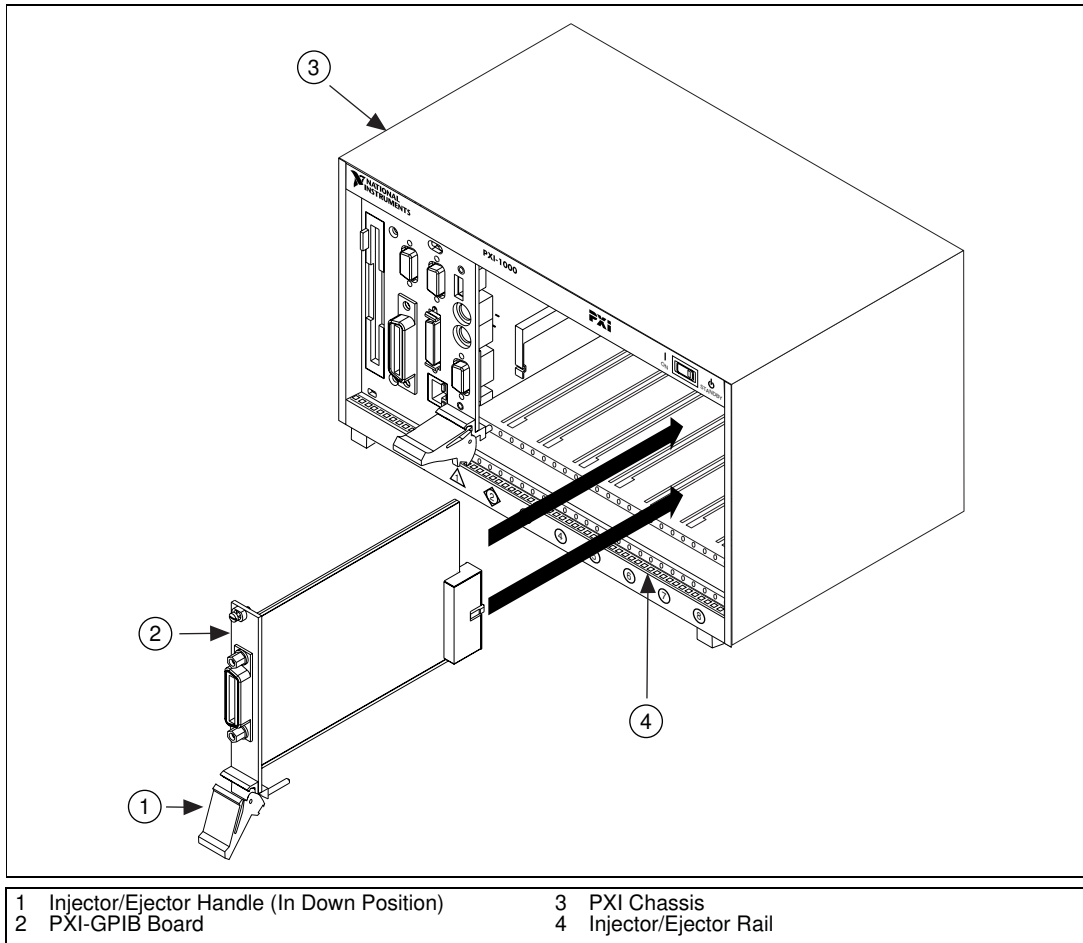

Figure 2-3. Installing the PXI-GPIB
5. Insert the PXI-GPIB into the selected 5 V slot. Use the injector/ejector handle to fully inject the device into place. Figure 2-3 shows how to install the PXI-GPIB into a PXI or CompactPCI chassis.